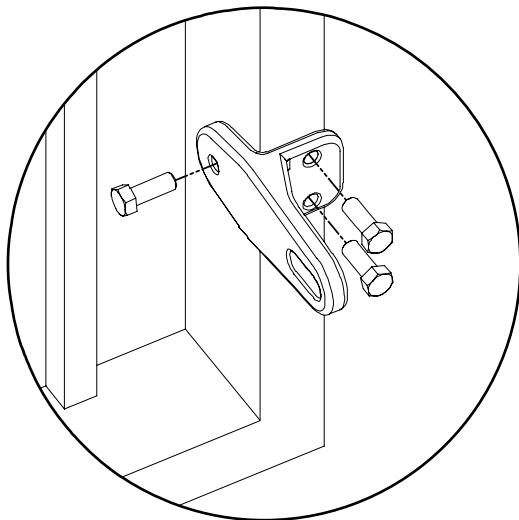
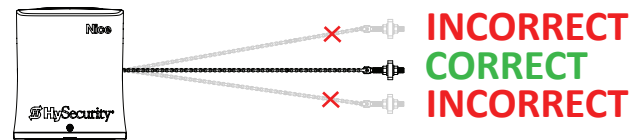
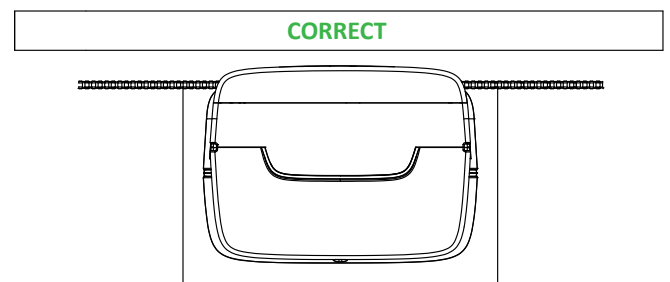
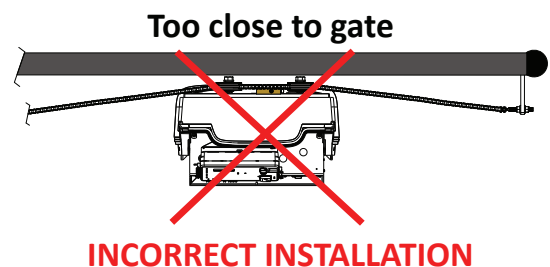

Figure 8. Attach Gate Bracket
Figure 9. Correct Bracket Height
Figure 12. Correct Distance to Gate
Figure 13. Incorrect Distance to Gate
6. Alternatively, weld the gate brackets in place (Figure 8 and Figure 9).
12. Chain must be parallel to ground and gate (Figure 9, Figure 12, Figure 13).